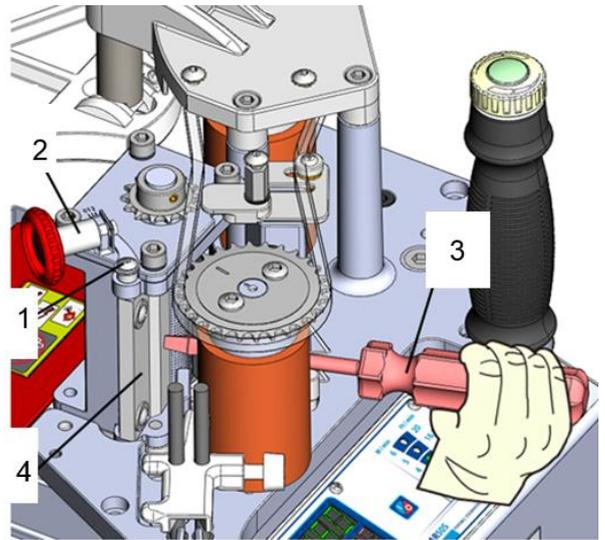

Fig7
- Reset scraper support pin to default setting : Remove top ventilated cover, loose screw (1) adjust scraper support pin (2) to default setting, use flathead (3) screw driver to press on and tighten up the main scraper plate (4) then tighten the screw (1) after completed above instructions(Fig 7).